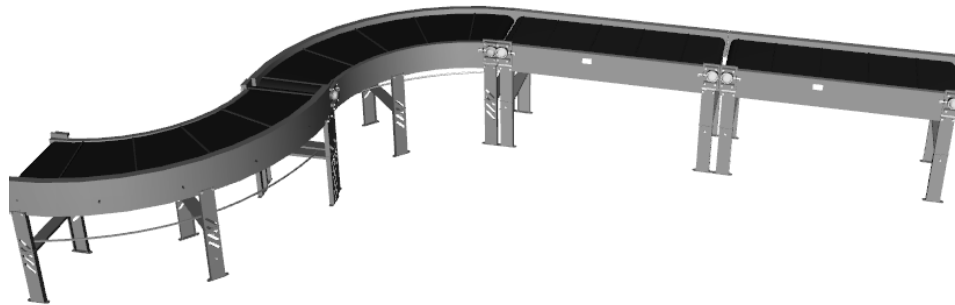

**Figure L6.7 - Conveyor Line**
3. Duplicate each of the conveyors once and align the conveyors so that they look like the production line in Figure L6.7.